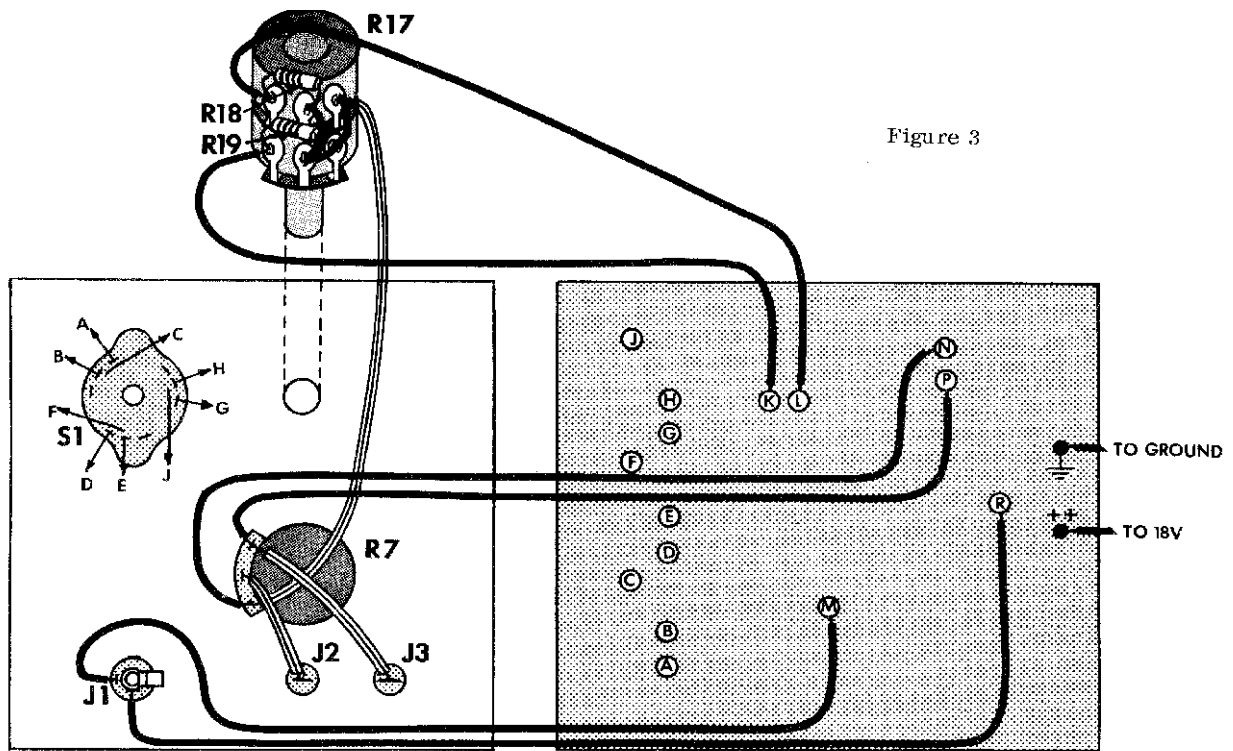

Figure 3
- ( ) Place a red pin jack (J2) in the hole provided as shown in figure 3 and fasten in place with a tinnerman nut as shown in detail figure 2. Press the tinnerman nut down firmly.
- ( ) Place the second red pin jack (J3) in the hole provided as shown in figure 3 and fasten in place with a tinnerman nut as shown in detail figure 2. Press the tinnerman nut down firmly.
- ( ) Mount the open circuit phone jack (J1) to the front panel in the position shown in figure 3. Orient the jack as shown and fasten it in place with the nut provided. Carefully tighten the nut by pulling the points of the jaws of a pair of small diagonal cutters into the notches in the nut using the cutters as a spanner.
- ( ) Mount rotary switch S1 in the position shown in figure 3. Note that a standard 3/8" nut is used as a spacer between the switch body and the back of the front panel (the threads of this nut will not mesh with the threads on the shaft of the switch) while the nut provided with S1 is used on the front of the panel to tighten the switch in place. Orient as illustrated.
- ( ) Mount single section potentiometer R7 in the location shown in figure 3. Use two 3/8" nuts, one behind the front panel as a spacer and the second on the front side of the panel to secure the potentiometer. Adjust the rear nut so that none of the threaded shaft of the control is exposed when the front nut is tightened down. This will allow the control knob which will be mounted in a later step to seat as closely as possible to the panel. Orient as illustrated.
- ( ) Mount dual section potentiometer R17 in the location shown in figure 3. Use two 3/8" nuts as on R7 and orient as shown.
- ( ) Solder the nine connections from circuit board points "A" through "J" to the rotary switch S1 as shown in assembly detail fig. 3. (Note that "I" is omitted.)